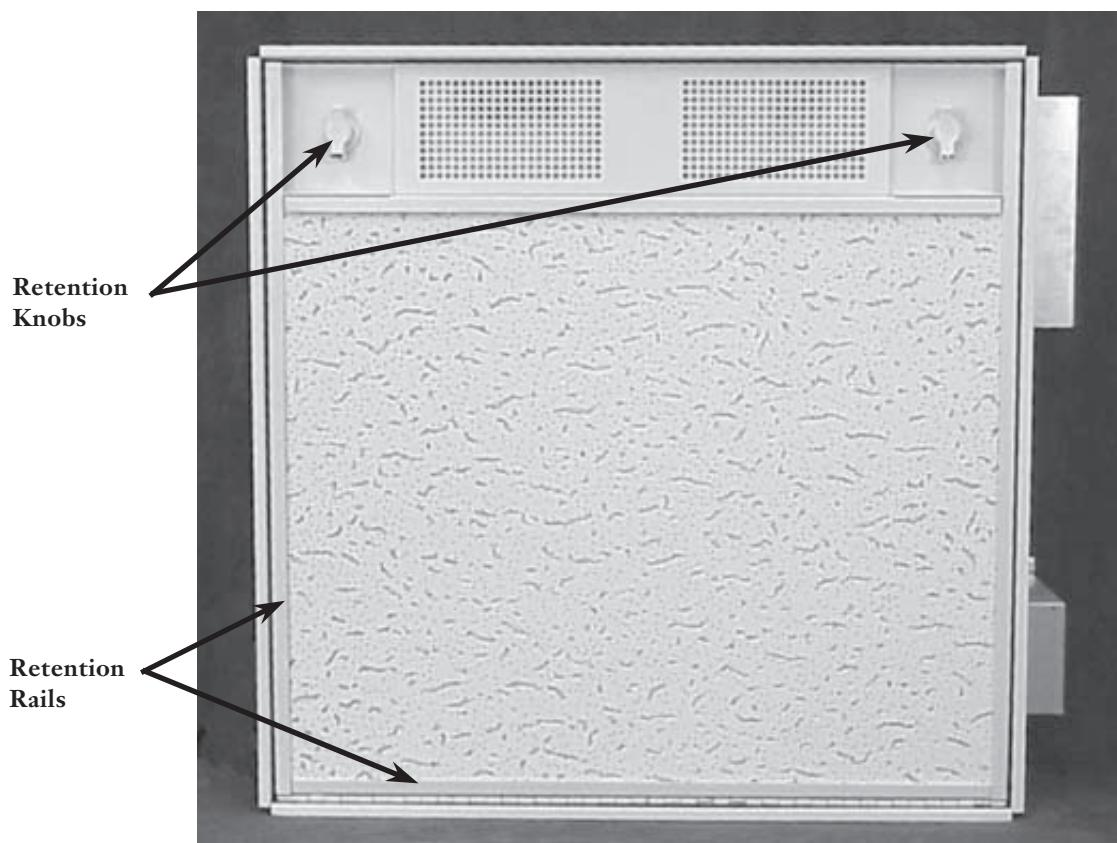

Figure 6
- Step 6** Slide the ceiling tile into the retention rails on the access door, then replace the retention rail and the retention knob/latch assemblies to secure the ceiling tile to the access door (Figure 6). An optional locking latch kit is available to replace the original latching mechanism. Contact customer service to order this accessory.